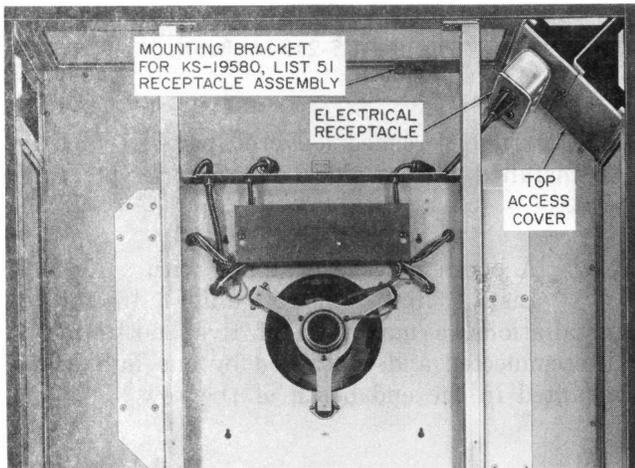
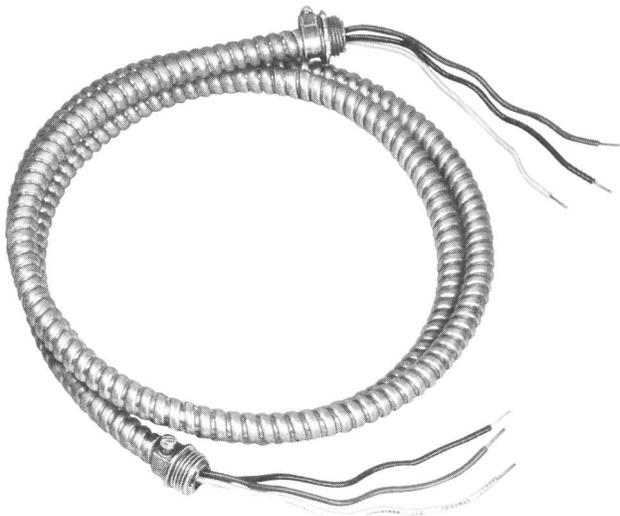

Fig. 3—KS-21716 Booth Ceiling Area
Fig. 6—KS-19425, List 24 Power Cable Assembly
2.10 A mounting bracket (Fig. 3) is provided in the ceiling area for mounting a KS-19580, List 51 receptacle assembly.
- (c) **KS-19425, List 24 power cable assembly (Fig. 6):** Used to bring power from the KS-19426, List 17 circuit breaker box to the electrical receptacle (Fig. 3) located above the ceiling.
2.12 The telephone wire will terminate above the ceiling on a 123A1A protector which is furnished with the booth and located behind the top access cover (Fig. 3).